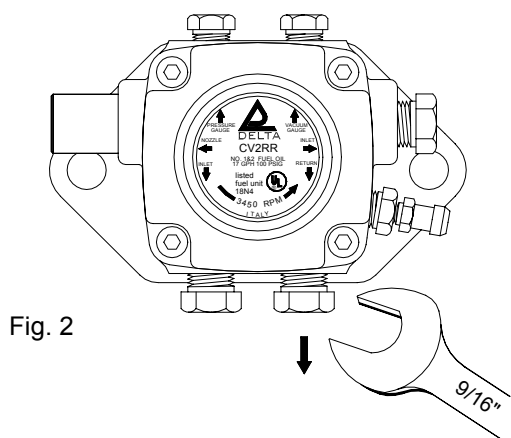

Fig. 2
- Using a 9/16" wrench, remove the 1/4"NPT plug from return port (Fig. 2).